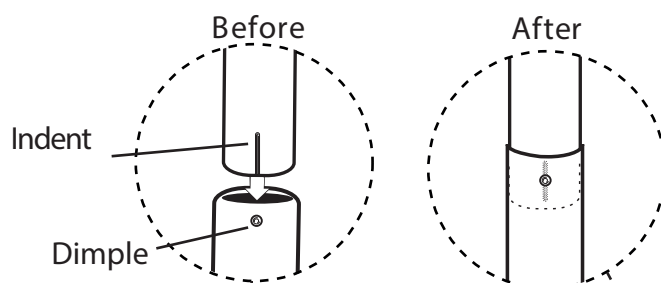

FIG 1
1. Align the dimple located at the base of the upper pole (G) with the indent located at the top of pole (F).
2. To seat the poles (G & F) correctly strike the assembled and aligned poles onto a piece of scrap wood (See figure 1). Ensure you have completed step 1 correctly before doing this as it creates a permanent bond and cannot be reversed.